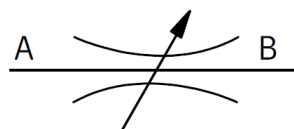

FIG 3.
- D. The symbol for an adjustable flow control valve is shown in Fig 3.